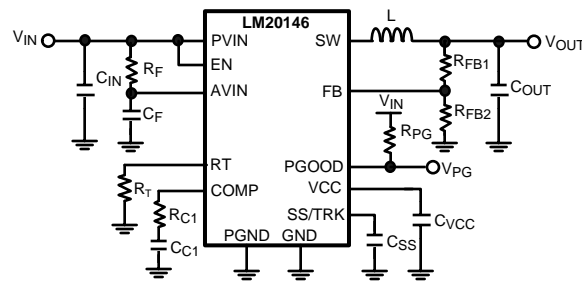

Figure 29. Typical Application Circuit
The LM20146 switching regulator features all of the functions necessary to implement an efficient low voltage buck regulator using a minimum number of external components. This easy to use regulator features two integrated switches and is capable of supplying up to 6A of continuous output current. The regulator utilizes peak current mode control with nonlinear slope compensation to optimize stability and transient response over the entire output voltage range. Peak current mode control also provides inherent line feed-forward, cycle-by-cycle current limiting and easy loop compensation. The switching frequency can be varied from 250 kHz to 750 kHz. The device can operate at high switching frequency allowing use of a small inductor while still achieving high efficiency. The precision internal voltage reference allows the output to be set as low as 0.8V. Fault protection features include: current limiting, thermal shutdown, over voltage protection, and shutdown capability. The device is available in the HTSSOP package featuring an exposed pad to aid thermal dissipation. The LM20146 can be used in numerous applications to efficiently step-down from a 5V or 3.3V bus. The typical application circuit for the LM20146 is shown in Figure 29 in the design guide.
This section walks the designer through the steps necessary to select the external components to build a fully functional power supply. As with any DC-DC converter numerous trade-offs are possible to optimize the design for efficiency, size, or performance. These will be taken into account and highlighted throughout this discussion. To facilitate component selection discussions the circuit shown in Figure 29 below may be used as a reference. Unless otherwise indicated all formulas assume units of Amps (A) for current, Farads (F) for capacitance, Henries (H) for inductance and Volts (V) for voltage.
To prevent high frequency noise spikes from disturbing the sensitive analog circuitry connected to the AVIN and AGND pins, a high frequency RC filter is required between PVIN and AVIN. These components are shown in Figure 29. as C_F and R_F . The required value for R_F is 1Ω. C_F must be used. Recommended value of C_F is 1.0 μF. The filter capacitor, C_F should be placed as close to the IC as possible with a direct connection from AVIN to AGND. A good quality X5R or X7R ceramic capacitor should be used for C_F .